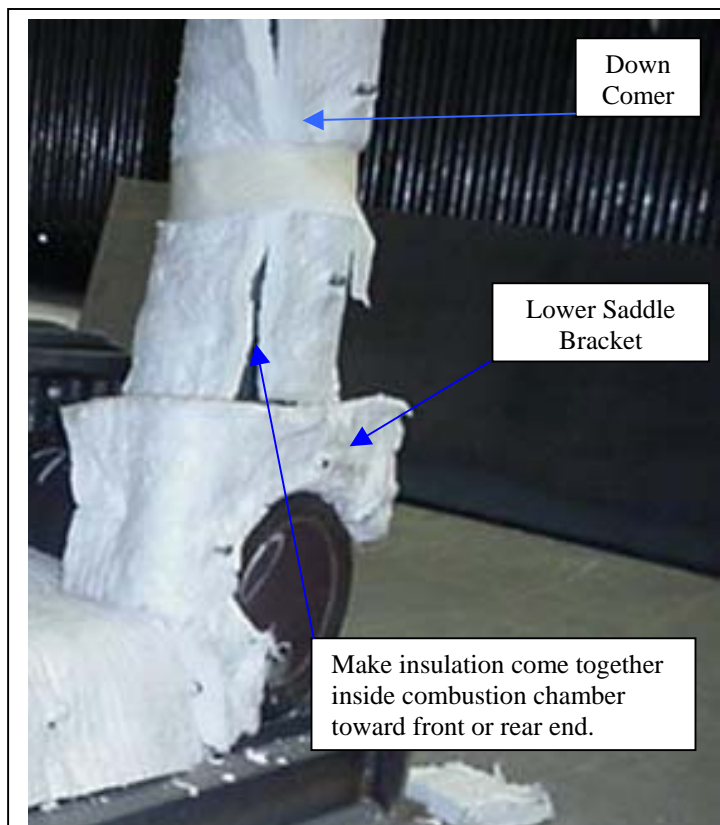

Figure 6
- 2.3 Cut 1" Insulwool white blanket to tightly fit around down comers. Fold insulation to overlap a small amount around down comer. Construct insulation to come together inside combustion chamber toward front end therefore flue Collector front will hold insulation in position when bolted into place. Use tape to hold white blanket stationary until Flue Front is in position. See Fig 6 & 7.
- 2.4 Cut 1" Insulwool white blanket to closely fit around upper and lower drum saddle bracket. See Figures 6 & 7. Push studs through insulation in order to hold insulation in place.